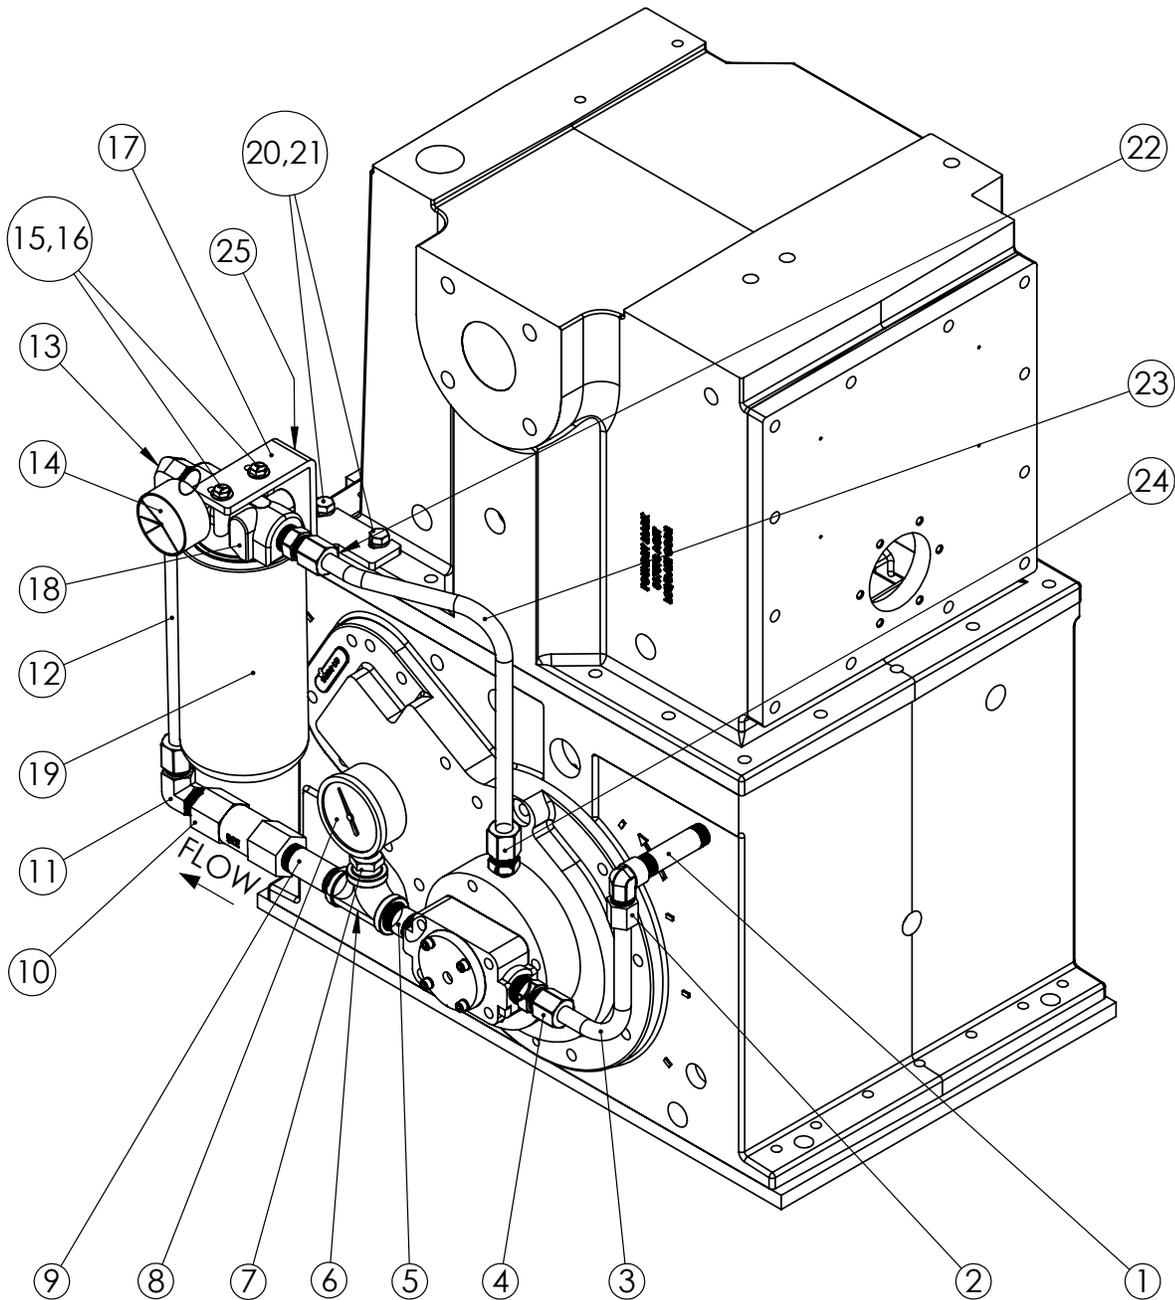

Figure 1-2 – KT-150 Filter Kit Drawing
4. Remove the two bolts in the separator housing where the bracket will be mounted (refer to FIGURE 1-2). These bolts will not be reused.
5. Loosely attach filter housing/bracket assembly using bolts and washers (#20 & #21 – FIGURE 1-2).
6. Install kit plumbing as shown in FIGURE 1-2 starting with #1 using the Loctite 567 on all NPT parts. Tighten NPT fittings, but leave tube fittings loose until assembled. Tubes may be shortened/cut using a standard tube cutter. Ensure check valve is orientated correctly with flow.
2. When starting KT Pump the green/red gage (#14 – FIGURE 1-2) needle may be in the red until the oil is above 140°F, this is normal. If gage needle is in the red when temperature is above 140°F, replace filter.